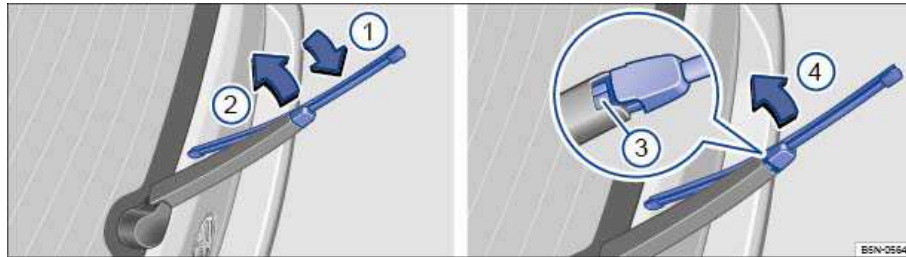

Fig. 177 Changing the rear window wiper blades.
- Pull the release on bracket in the direction of the arrow ⇒ fig. 177 \(1\). This may require a moderate force.